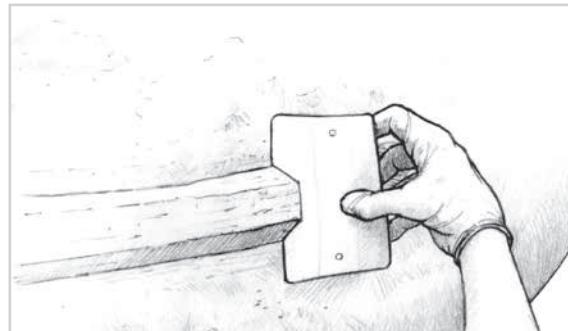

Figure 14-10 Use a spreader notched to the shape of the ridge to shape the mixture.
4. Apply a 1"-2" wide ridge of fairing compound to the surface at each guide location. Use the same mixture of 105 Resin-based epoxy thickened with 407 or 410 filler, thickened to a stiff, peanut butter consistency, that will be used to fill between the guides. Trowel on the fairing mixture with a plastic spreader, and then use a spreader notched to the shape of the ridge to shape the mixture (Figure 14-10). Cut the notch deep enough to equal the height of the ridge at the lowest area of the surface. Tilt the spreader as necessary to adjust the height.